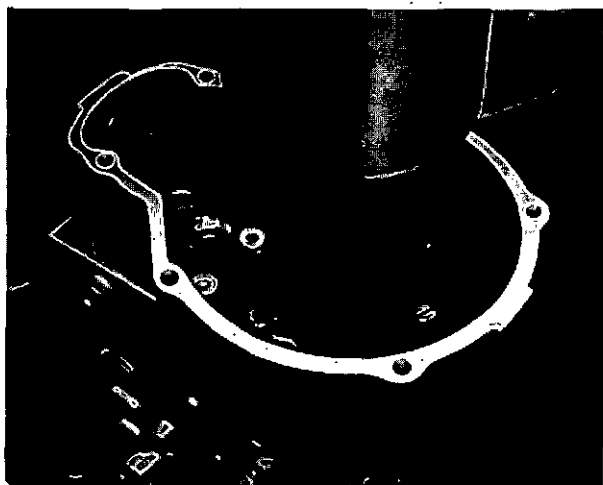

Fig. 23 Re-positioning outer race (second operation)
- (b) Place the adjusting plate on the outer race, fit the joint washer and governor housing and lightly tighten the securing screws. Then press the assembly fully home (fig. 23) fully tighten the securing screws.